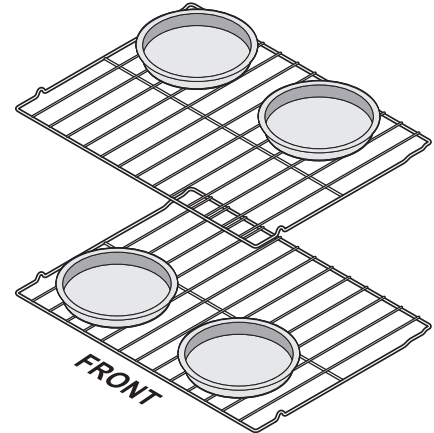

Figure 17: Pan spacing
- When baking cakes using 2 racks, place cookware on oven rack positions 3 and 11 and position pans as shown in (Figure 17). Allow at least 2 inches (5 cm) space between the food items to ensure proper circulation.